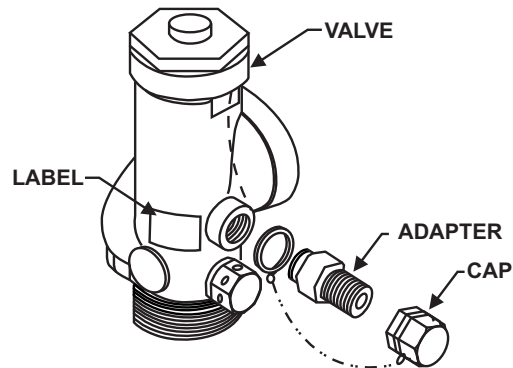

Figure 4-4. Installation of Master Cylinder Adapter Kit
1. Remove the 1/4-inch pipe plug from the slave actuation port on the master cylinder valve (see Figure 4-4).